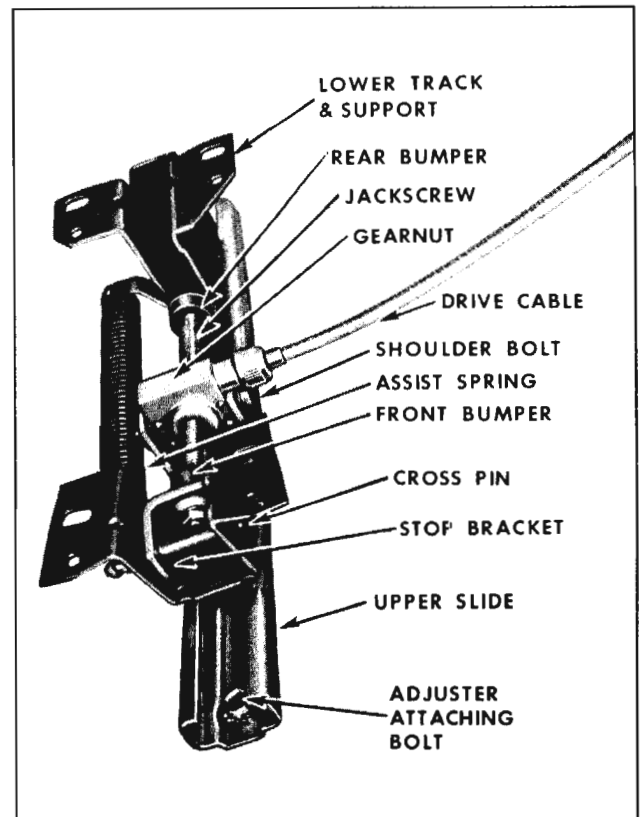

Fig. 16-78 Two Way Seat Adjuster
2. Detach power drive cable from gear nut of adjuster to be removed. (Fig. 16-78)
3. Remove seat adjuster-to-seat bottom frame front and rear attaching bolts. (Fig. 16-78)
3. Using a "clutch" type screwdriver, remove two shoulder bolts securing gear nut to upper slide portion of seat adjuster assembly. (Fig. 16-78)
2. Using a "clutch" type screwdriver, remove two shoulder bolts securing gear nut to upper slide portion of seat adjuster assembly. (Fig. 16-78)